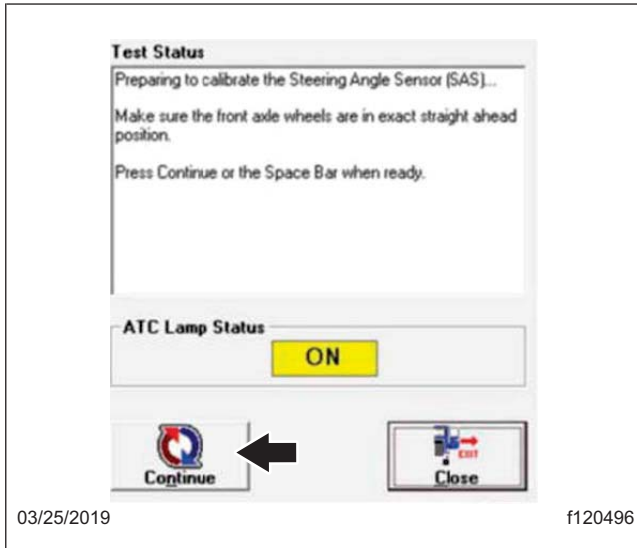
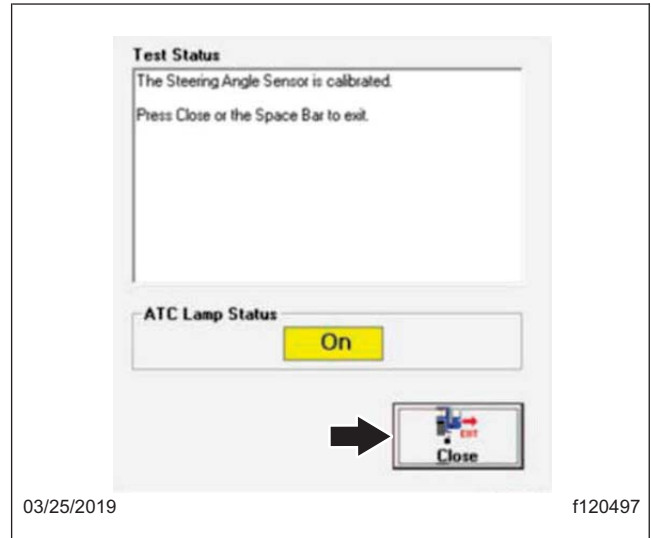

Fig. 6, Test Status, SAS Screen 1
Fig. 7, Test Status, SAS Screen 2
5. Follow the instructions in the message box. See Fig. 6. The software indicates when the SAS is calibrated. Once the SAS is calibrated, press the 'Close' button or the space bar to continue. See Fig. 7.